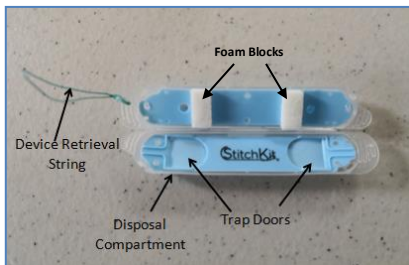

Figure 2 - View of StitchKit® PARK™ Device when it is open
The StitchKit® PARK™ device has two white "Foam Blocks" that can be used to "park" suturing needles prior to passing the suture of your choice to the surgical site (see Figure 2). Rotate needles when inserting them into the foam and position them so that the needles will be enclosed and protected within the device when it is shut. Trim suture to approximately 8 to 9 inches. Allow the tails of the suture to extend beyond the canister ensuring that they exit on the same side as the retrieval string.
- 5.4. Place the used needle (with remnant suture removed) into the disposal compartment via the trap door. It is typically easier to place the blunt aspect of the needle into the compartment first (Figure 2).